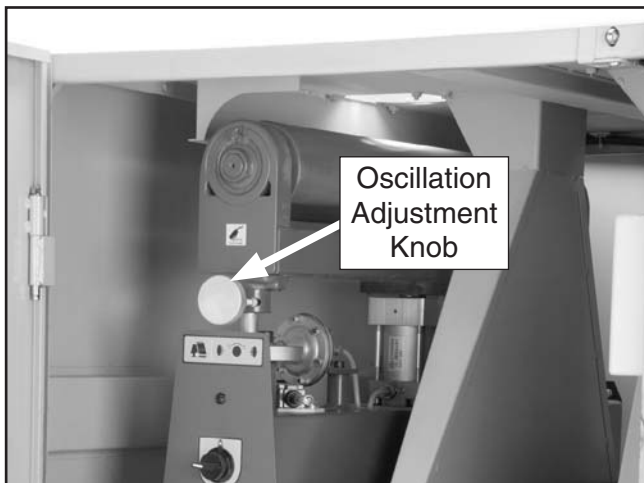
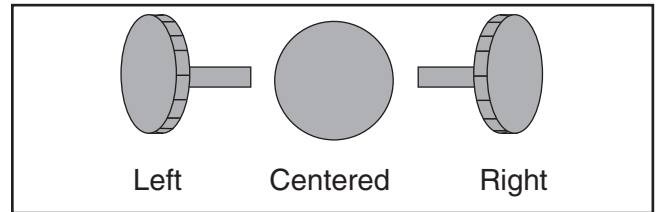

Figure 50. Oscillation adjustment knob.
Figure 51. Belt tracking knob positions.
3. Visually check that the belt tracking adjustment knob (**Figure 50**) is centered, as shown in **Figure 51**.